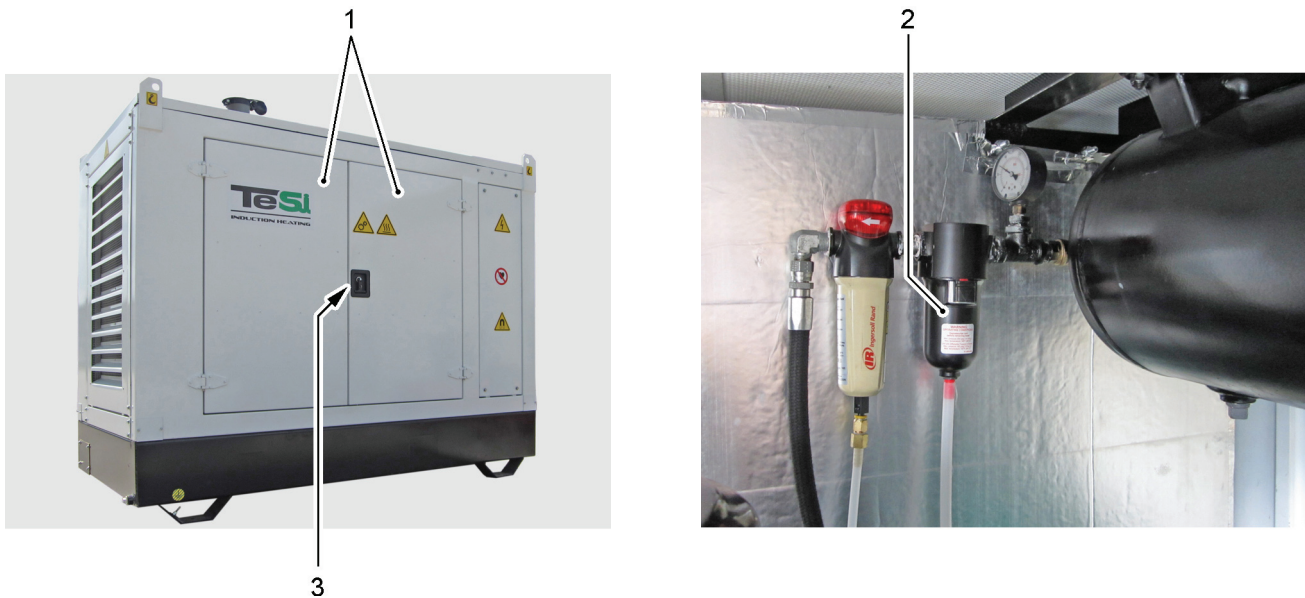

Figure 7.9 - Check and possibly clean the air filter desiccator of the compressed air system (Optional)
- open the access door to the engine (see Figure 7.9/1), situated on the rear part, by acting on the relevant handle (3), after having removed the locking padlock;
- normally the air filter desiccator does not require maintenance because it has an automatic drain; however, perform a check by unscrewing the body (2) of that unit and possibly flush out manually any larger contaminants and clean;
- close the access door to the engine (1), by acting on the handle (3), and lock it by means of the locking padlock.